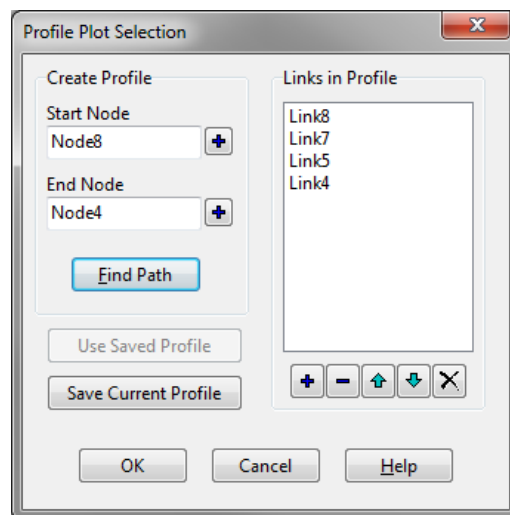

Figure 10 Profile Plot Selection dialog
7. Click **Create a Profile Plot**  to bring up the *Profile Plot Selection* dialog (Figure 10).